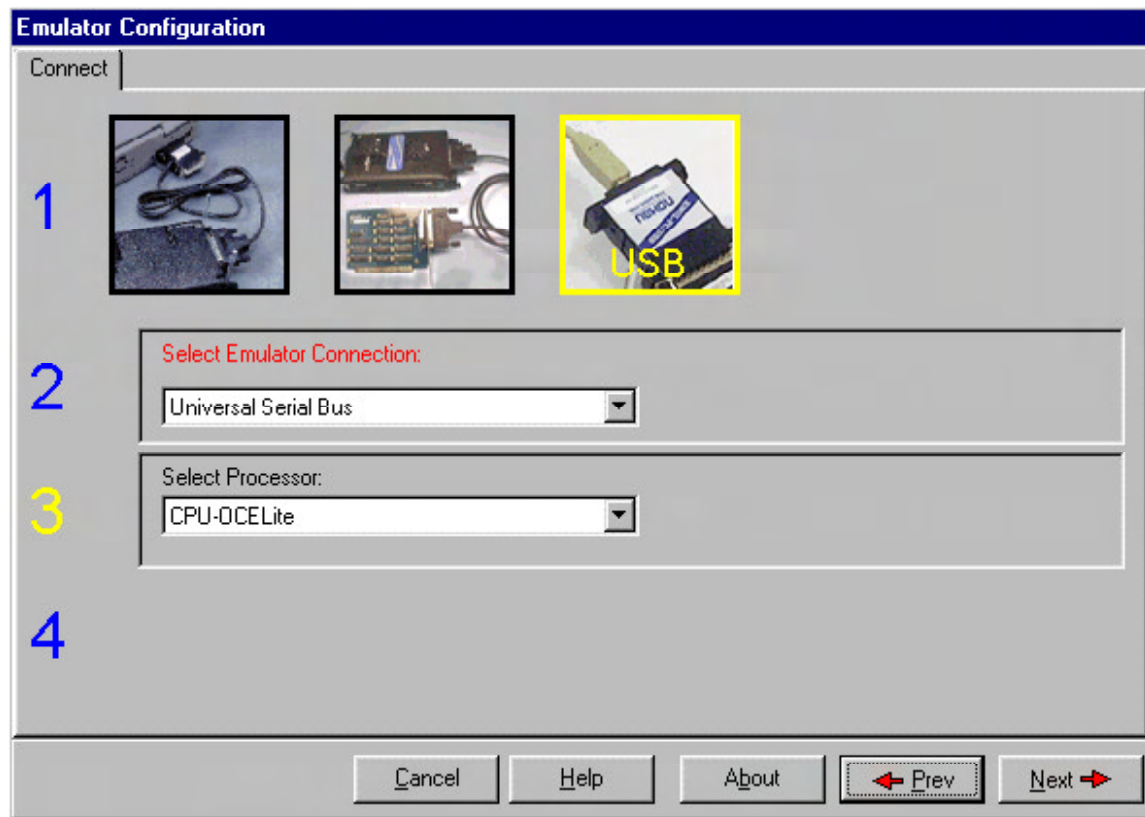

Figure 5. Emulator configuration window
2. Select **Seehau ST10**. Then click **Config** to open the Emulator Configuration window displaying the **Connect** tab (see figure 5).
3. The interface type for the EMUL-ST10-OCELite-PC emulator is USB, which is the one selected in figure 5. Click the next button to proceed.
4. Select the CPU-OCELite. Click next to proceed (see figure 5).